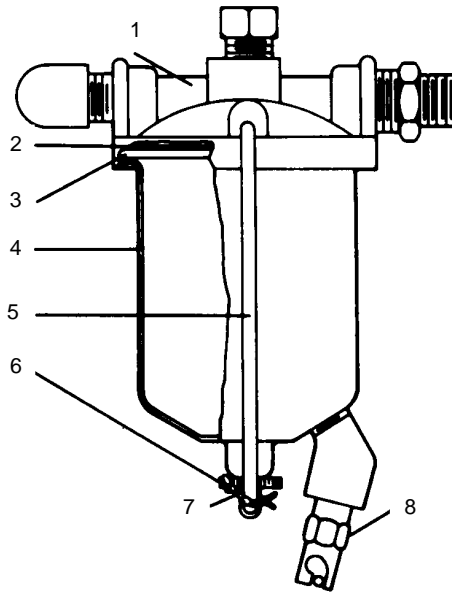

Figure 2-10. Fuel Strainer
a. The fuel strainer, equipped with an easy drain valve is mounted on the lower left side of the firewall. The fuel strainer should be drained regularly to check for wear or dirt accumulations. (Refer to Figure 2-10)